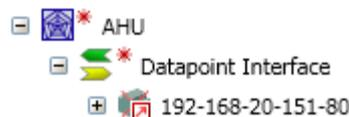

Figure 92: Navigation View after Import of LWEB-800 Project
3. The graphical view is created and displayed in the navigation view. The data point interface contains a link to the device in the imported project (see Figure 92). If a matching device with the same IP address exists in the LWEB-900 project, the link is resolved automatically, else a broken link is displayed. To fix the broken link, simply drag a device from the **Devices** folder and drop it on the broken link.